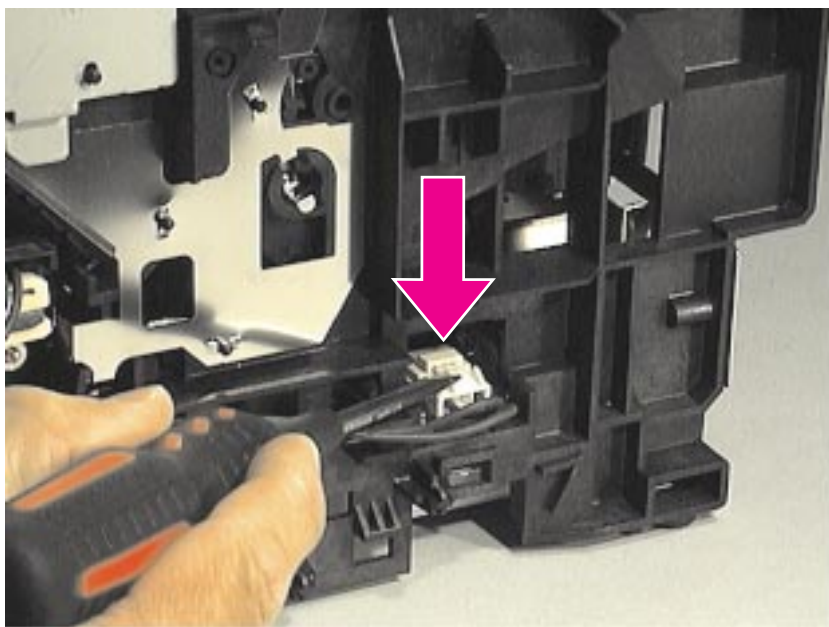

Figure 5-4 Heating Element Connector
- 3 Remove the heating element connector (Figure 5-4) from the ECU. To measure the continuity of the heating element, measure the resistance between the two pins at the end of the cable.